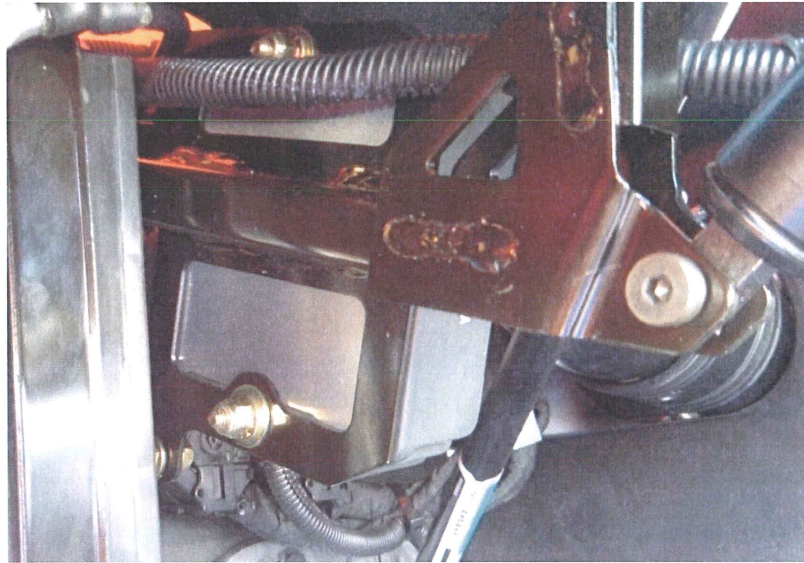

Figure 4
6. Remove the three voltage regulator mounting bolts as shown in Figure 4.